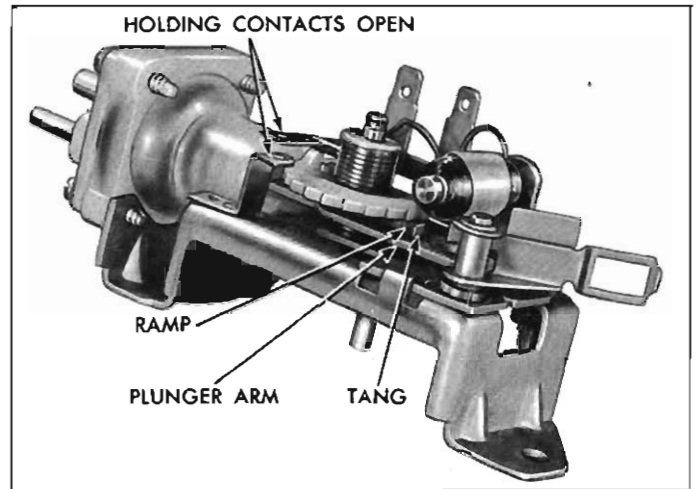

Fig. 8-19—Releasing Pump From Lockout Position
- b. Manually operate pump clockwise to release pump from "lock-out" position (fig. 8-19).